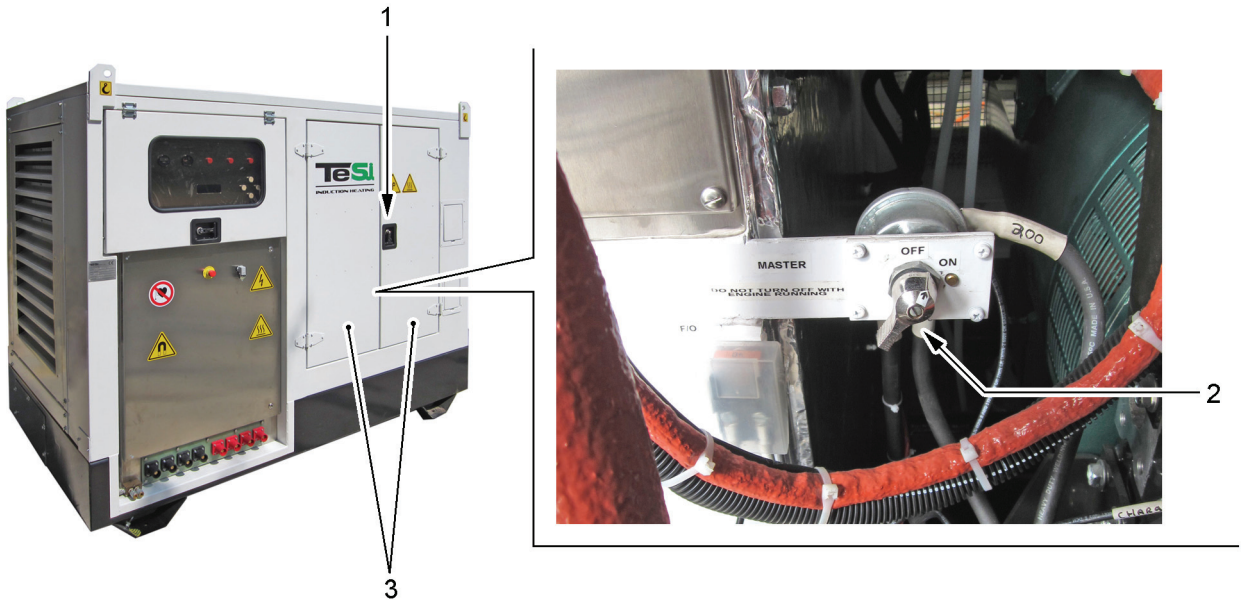

Figure 6.10 - Batteries switch
- 1) Open the access door to the engine (see Figure 6.10/3), situated on the front part, by acting on the relevant handle (1), after having removed the locking padlock and switch ON the battery switch (2).